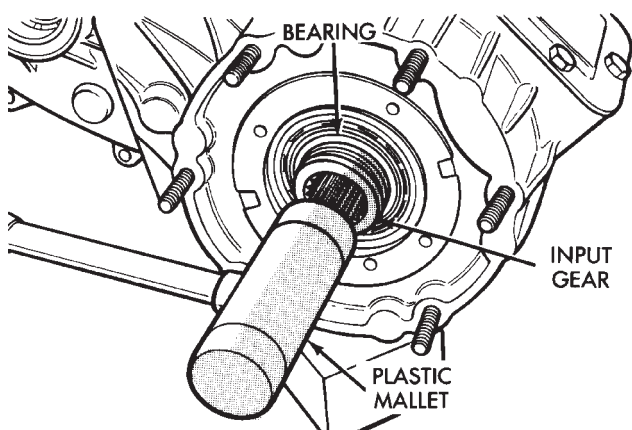

Fig. 40 Removing Input Gear Retaining Ring
(4) Tap input gear out of bearing with plastic mallet (Fig. 40).